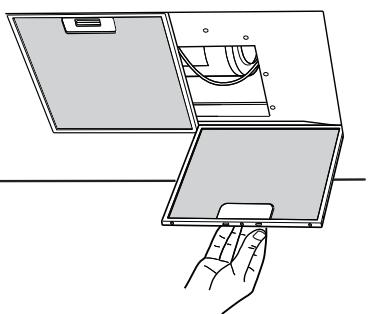

Fig.16
Before proceeding with the assembly operations, remove the anti-grease filter(s) (**Fig.16**) so that the unit is easier to handle.
- If the cooker hood is supplied with a lower chimney piece that must be fixed to the hood body with screws, remove the anti-grease filters from the hood by acting on the relevant handles (**Fig.16**).